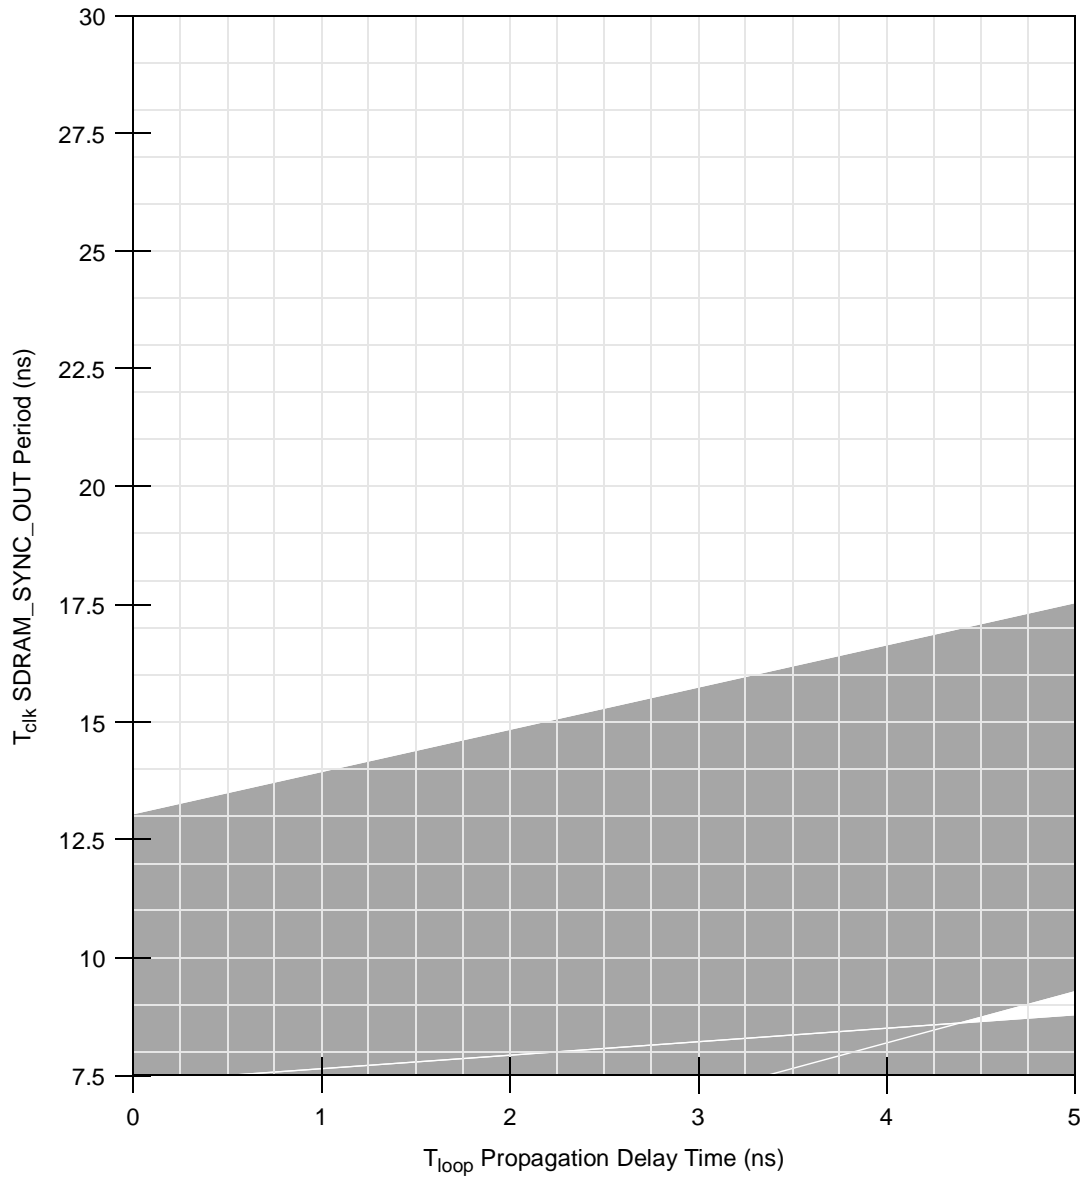
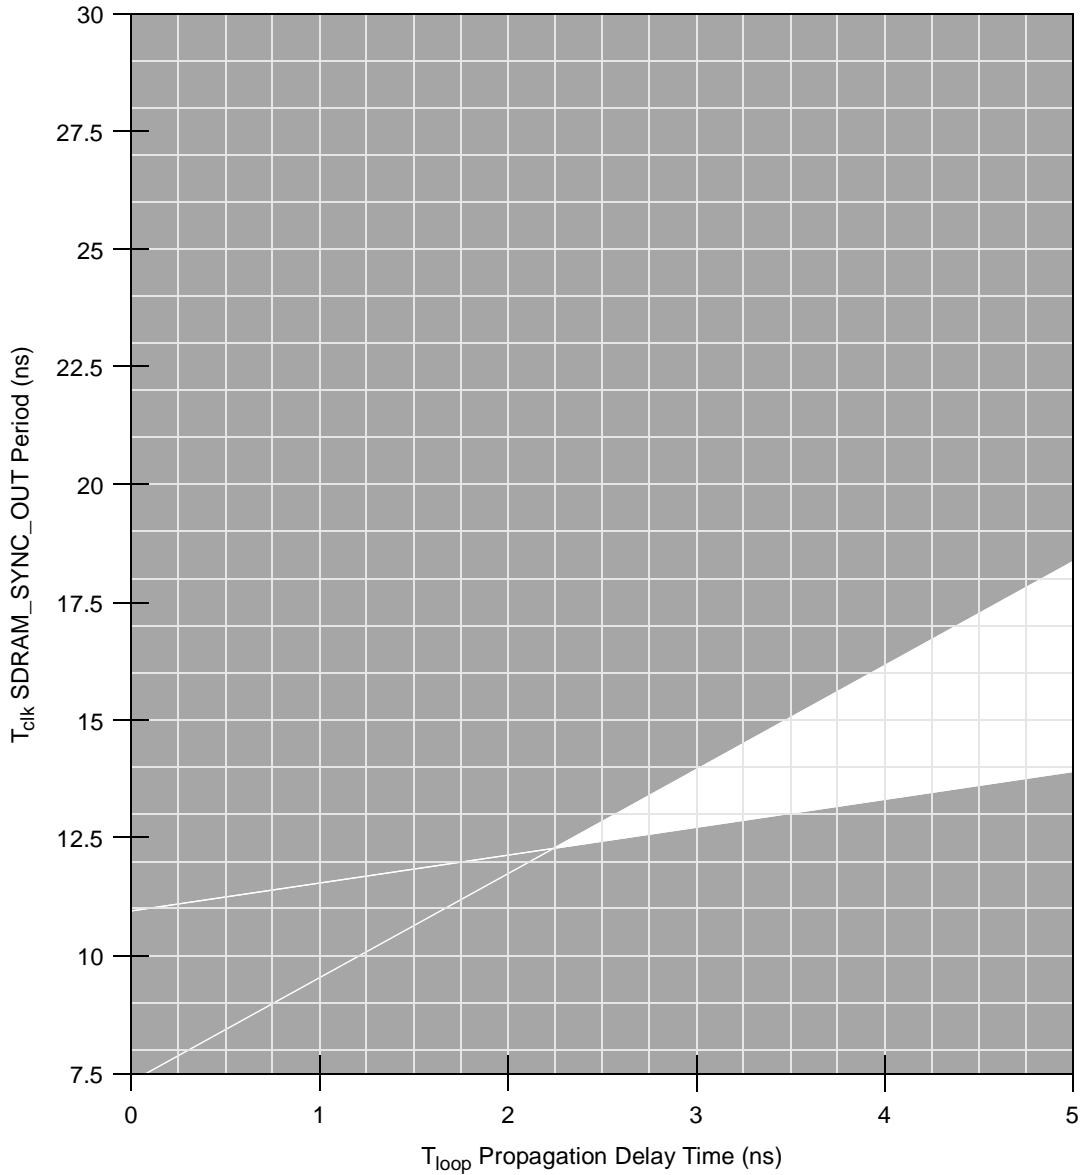

Figure 7. DLL Locking Range Loop Delay Versus Frequency of Operation for DLL_Extend=0 and Normal Tap Delay
Figure 10. DLL Locking Range Loop Delay Versus Frequency of Operation for DLL_Extend=1 and Max Tap Delay
- DLL_EXTEND is bit 7 of the PMC2 register <72>. *N* is a non-zero integer (see Figure 7 through Figure 10). T_{clk} is the period of one SDRAM_SYNC_OUT clock cycle in ns. T_{loop} is the propagation delay of the DLL synchronization feedback loop (PC board runner) from SDRAM_SYNC_OUT to SDRAM_SYNC_IN in ns; 6.25 inches of loop length (unloaded PC board runner) corresponds to approximately 1 ns of delay. For details about how Figure 7 through Figure 10 may be used refer to the Freescale application note AN2164, *MPC8245/MPC8241 Memory Clock Design Guidelines*, for details on MPC8245 memory clock design.
Figure 7 through Figure 10 show the DLL locking range loop delay vs. frequency of operation. These graphs define the areas of DLL locking for various modes. The gray areas show where the DLL locks.